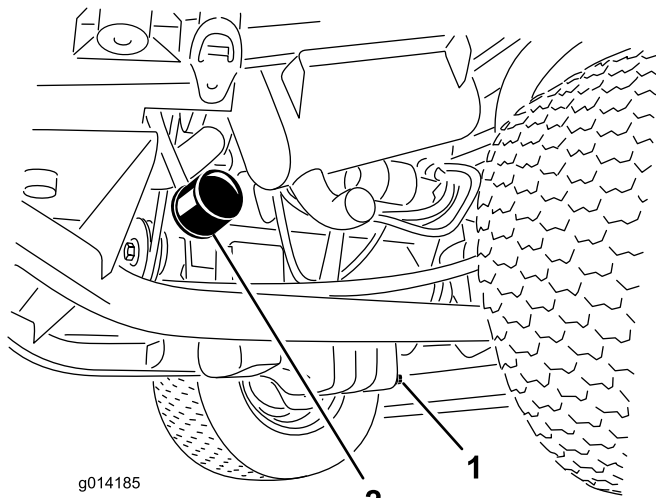

Figure 45
- Remove the drain plug (Figure 45) and let the oil flow into a drain pan.
- Remove the oil filter (Figure 45).